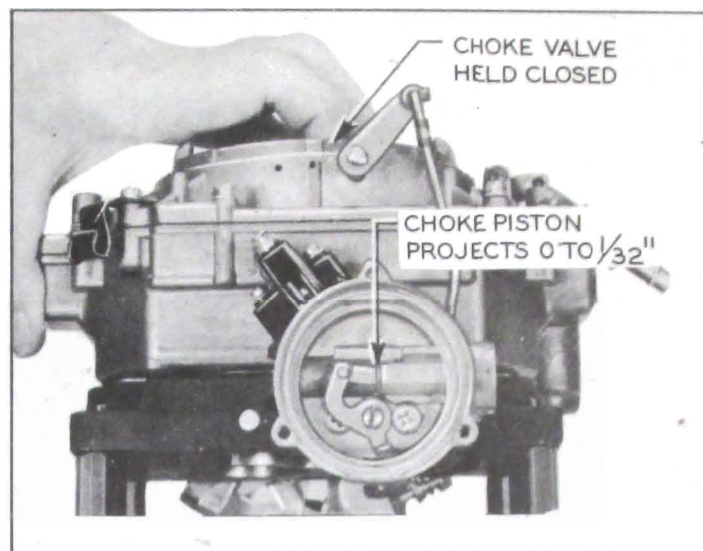

Figure 3-99—Checking Choke Piston Adjustment
26. With choke valve held closed, check to see that choke piston is projecting from cylinder between 0 and  $\frac{1}{32}$ ". See figure 3-99. If ad-